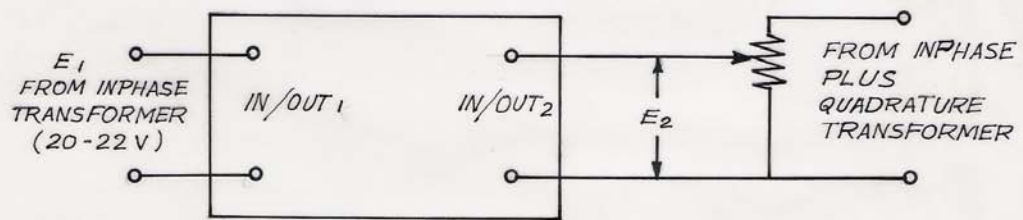

Fig. 1. Test Circuit Diagram
1. Study the circuit diagram (Fig.1) and various components of the Comparator.
4. Then vary the phase of E_2 from 0 to $\pm 180^\circ$ in steps of $\pm 45^\circ$. For any phase repeat the procedure as in (3) to determine E_2 for which E_0 is zero. For a particular phase of E_2 tabulate the results as shown below :